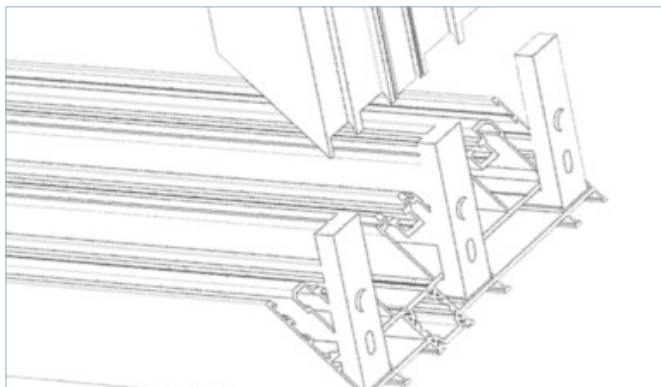

FIG 7
4. Align corners using the chevrons and then tighten using the 4mm allen key, making sure the joint is fully together. Once the corners are fully attached, fill the cleat locating holes and screw holes with silicone (this is essential on the bottom track) (FIG 7 & 8)